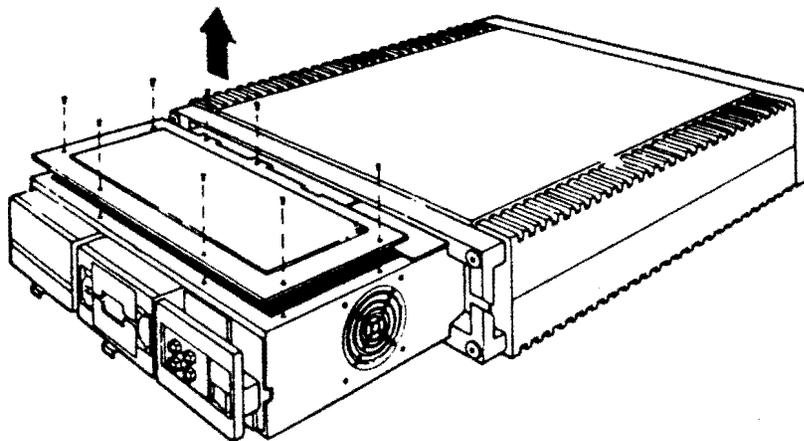

Figure 6-10: Storage Subsystem Cover Removal
7. Remove the storage subsystem cover (Figure 6-10).